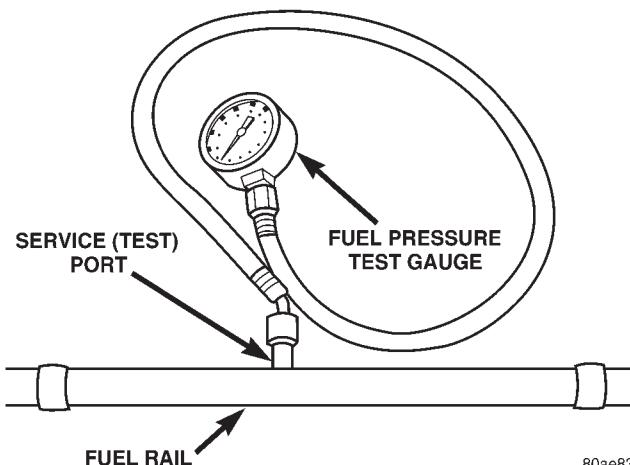

Fig. 7 Fuel Pressure Test Gauge (Typical Gauge Installation at Test Port)
(1) Remove protective cap at fuel rail test port. Connect the 0–414 kPa (0–60 psi) fuel pressure gauge (from gauge set 5069) to test port pressure fitting on fuel rail (Fig. 7).
(2) Start and warm engine and note pressure gauge reading. Fuel pressure should be $339 \text{ kPa} \pm 34 \text{ kPa}$ ($49.2 \text{ psi} \pm 5 \text{ psi}$) at idle.
(3) If engine runs, but pressure is below 44.2 psi, check for a kinked fuel supply line somewhere between fuel rail and fuel pump module. If line is not kinked, but specifications for either the Fuel Pump Capacity, Fuel Pump Amperage or Fuel Pressure Leak Down Tests were not met, replace fuel pump